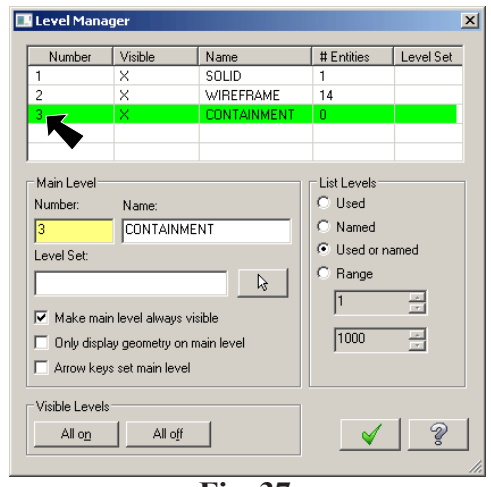

Fig. 37
Step 2. Click the **3** in the Number column to make **Level 3 CONTAINMENT** active, **Fig. 37**. Click OK  when done.